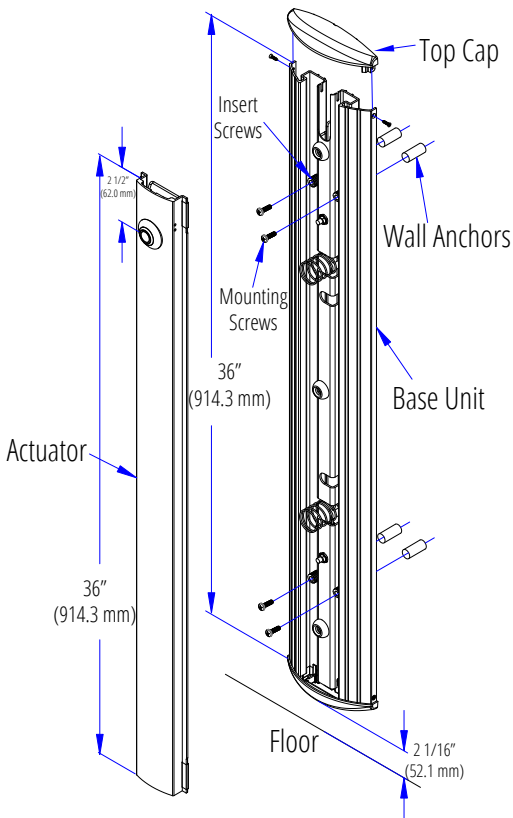

Figure 4.2 Mounting of Base Unit
2. Carefully pull out the actuator and place it aside so as to protect it from any surface damage. The bottom of the Switch should be located between 3” to 8” (76mm to 203mm) off the finished floor as per site conditions or code requirements. See Figure 4.2 for mounting illustration.
(See Figure 4.2 and 4.3 for reference.)
1. Check that the door jamb has a cutout that fits the strike assembly. If not, refer to figure 4.2 for guidance.